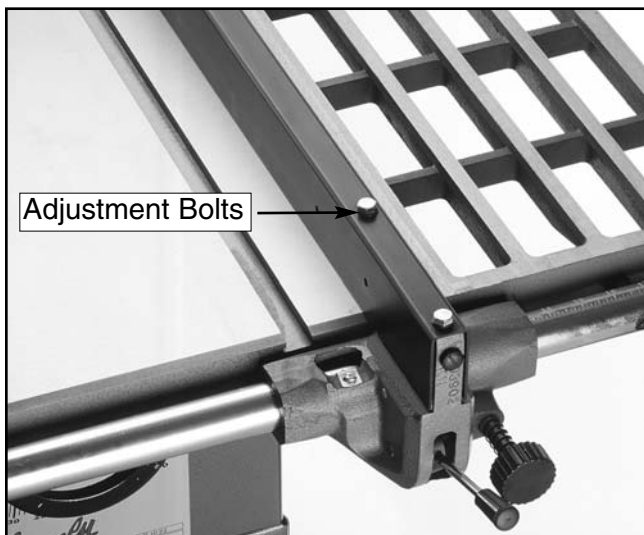

Figure 34. Adjustment bolts for fence parallelism.
- Loosen the adjustment bolts at the top of the fence shown in **Figure 34**. Move the straight portion of the fence until it is parallel with the miter slot from front to back. Retighten the bolts.